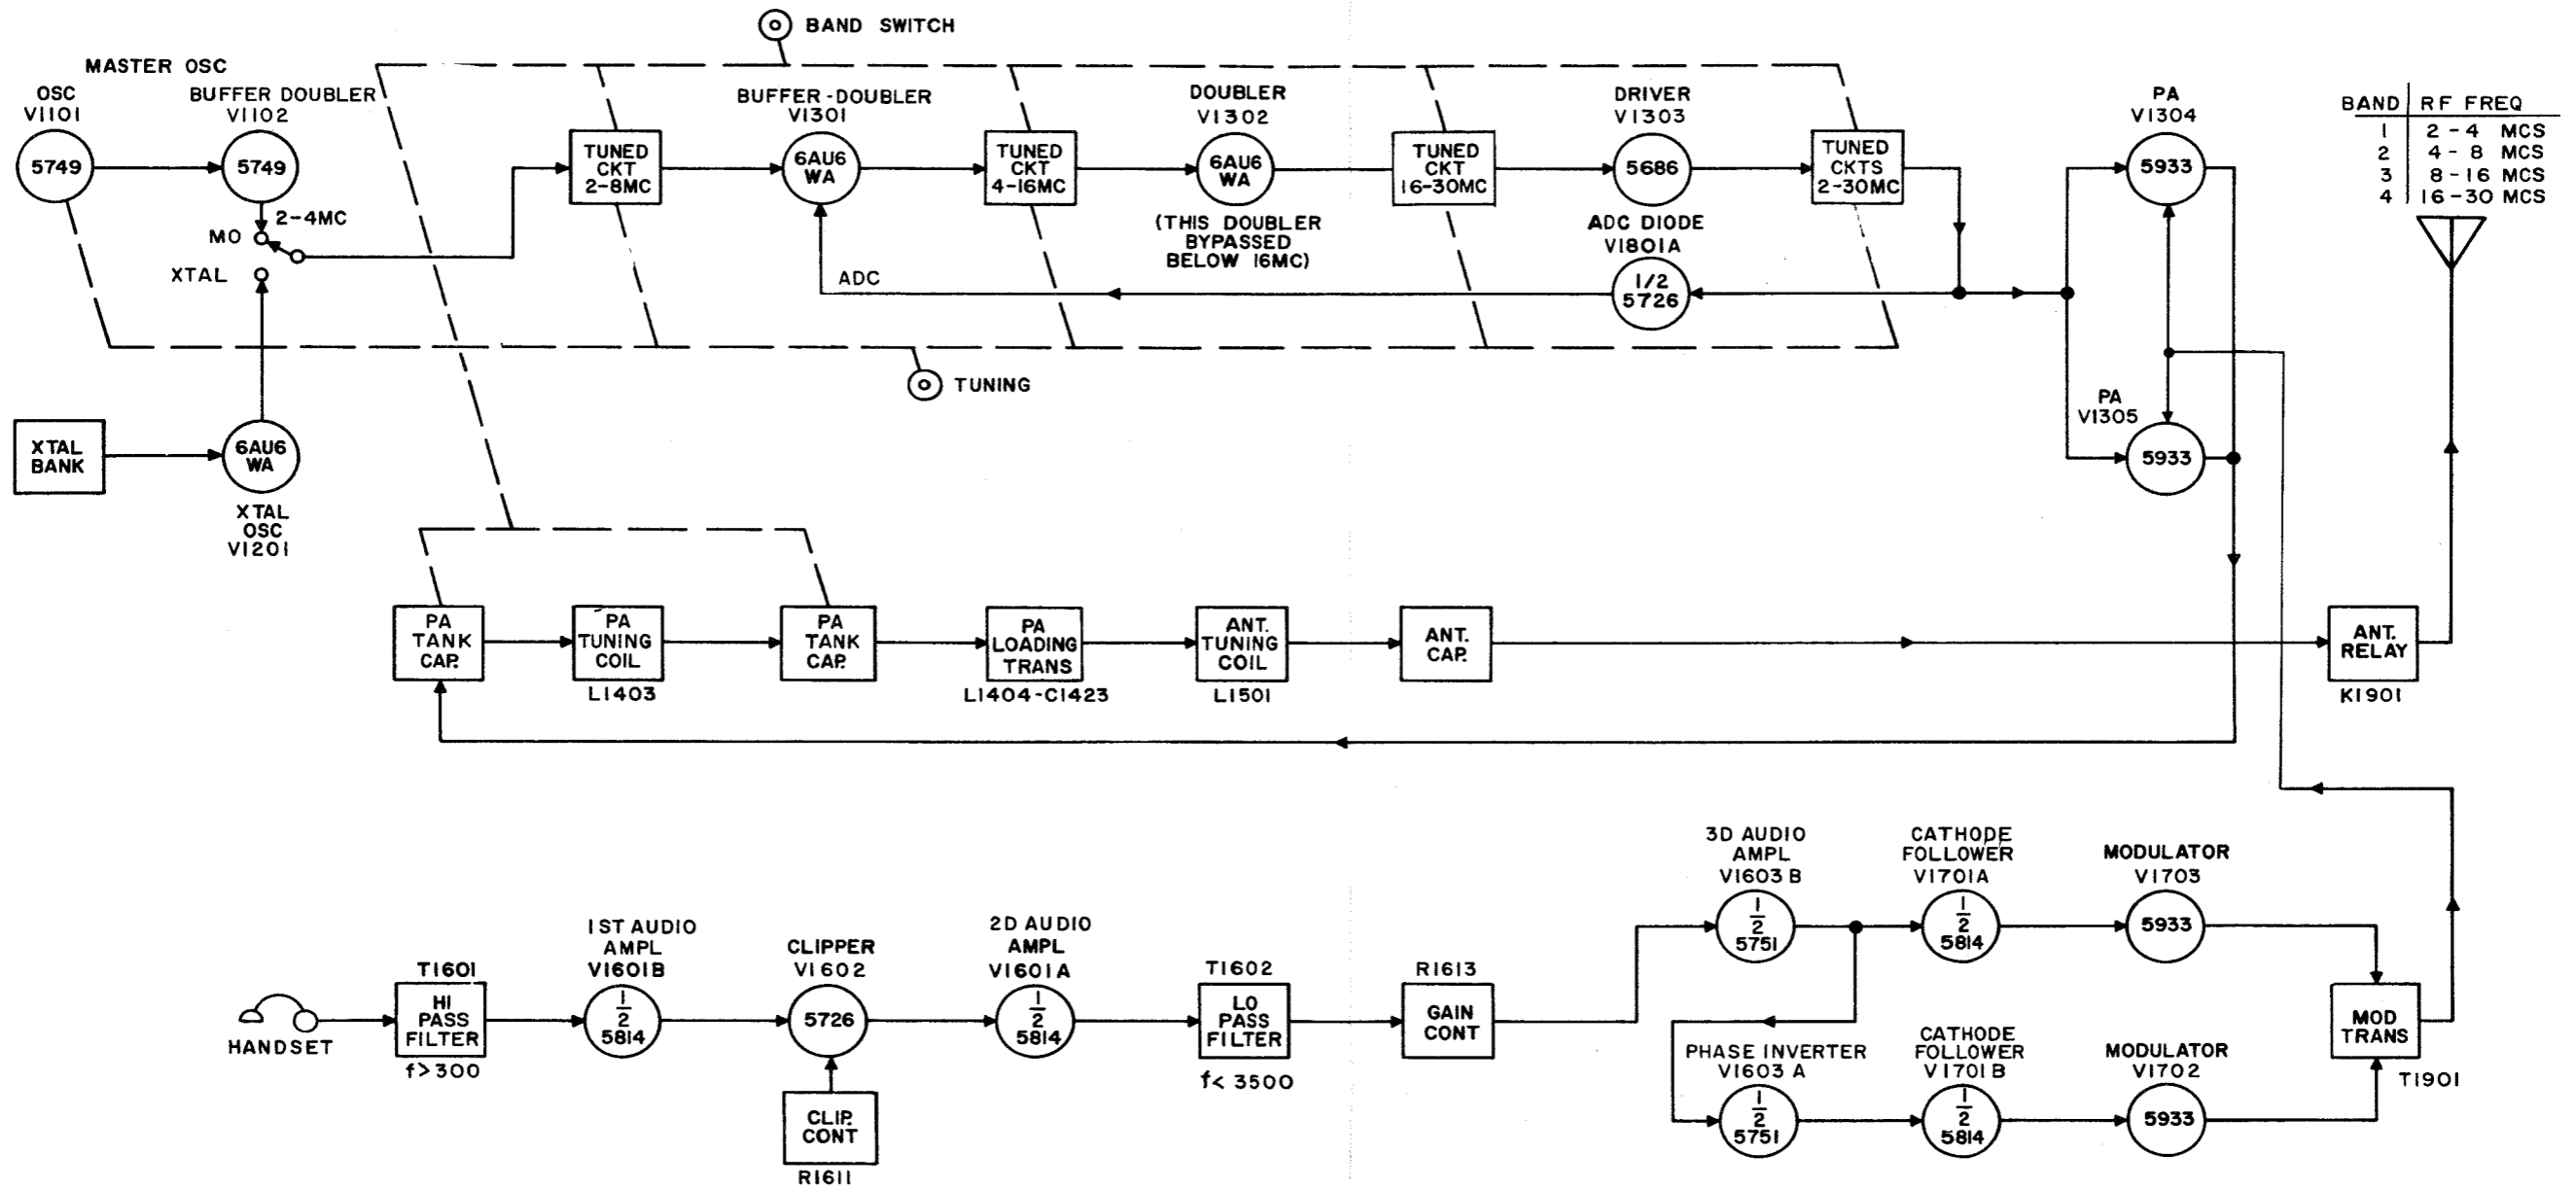

Figure 2-1. Radio Transmitter T-474(XN-1)/URC-8, Block Diagram
#### 1. RADIO TRANSMITTER THEORY (figures 2-1 and 5-5)
a. INTRODUCTION. - Figure 2-1 is a functional block diagram of Radio Transmitter T-474(XN-1)/URC-8 which shows the signal paths through the equipment. Figure 5-5 is the complete schematic diagram of the radio transmitter.